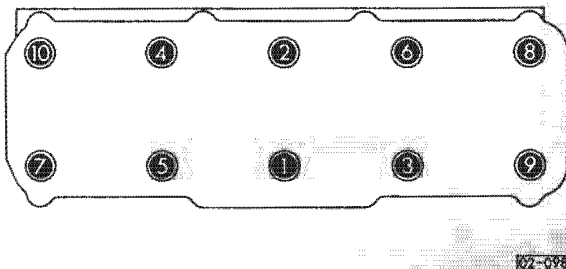

Fig. 2 Cylinder head bolts, tightening sequence
- tighten head bolts, see Fig. 2